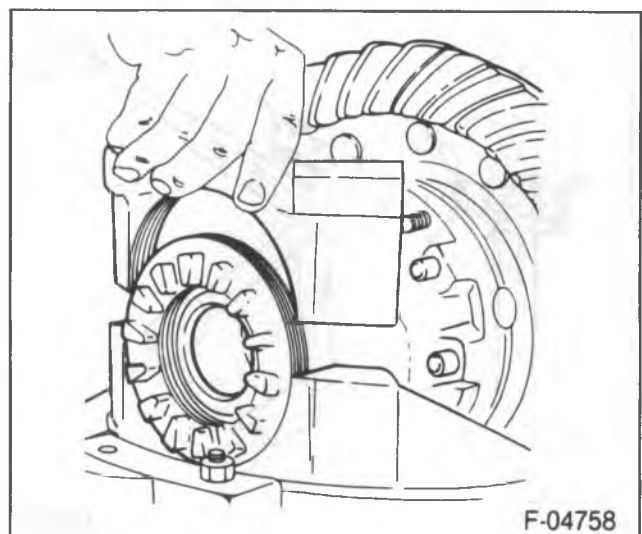

Figure 24—Installing the Bearing Cup
1. Bearing cups (33) onto the bearings.
2. Differential assembly (36) to the carrier.
3. Bearing adjusting nuts (32).
4. Bearing caps (25) (figure 24).
5. Cap bolts (23).